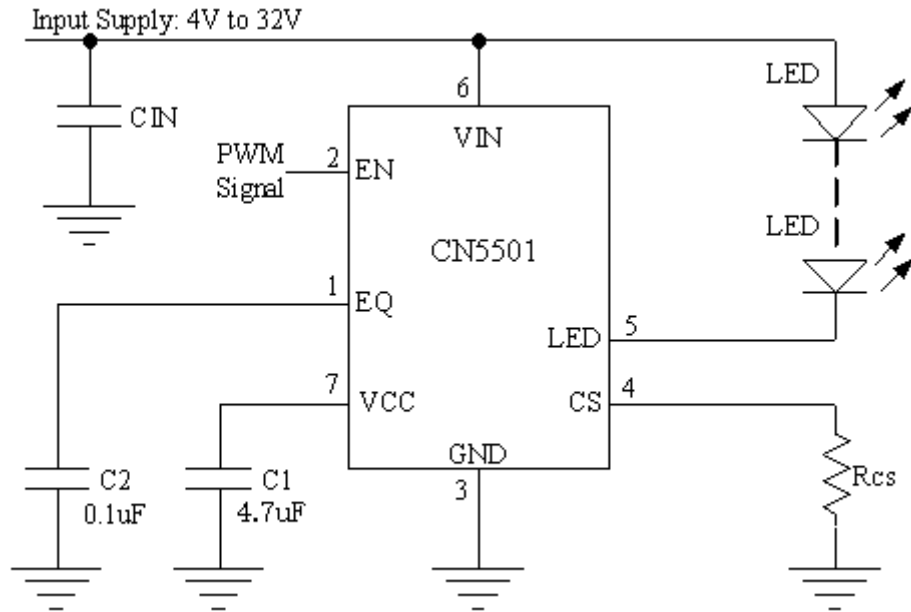

Figure 2 PWM Dimming
The CN5501 provides pulsed or chopped current dimming. Generally, high-brightness LEDs are binned to match at their full-rated current. However, LEDs from the same bin exhibit poor matching at currents other than full-rated current. To achieve uniformity, high brightness LED manufacturers recommend PWM pulsing of the LED current at their full-rated value. This can be achieved by pulsing the enable input (EN) while having a constant voltage at VIN, as shown in Figure 2. The PWM signal frequency should be less than 300Hz.